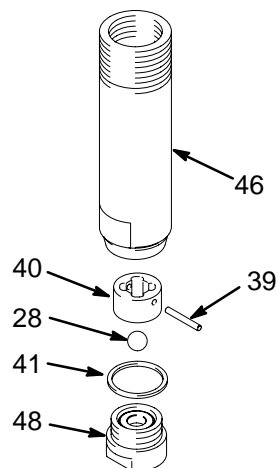

Fig. 7
2. Unscrew the intake valve (48) from the cylinder (46). If the valve is seized in the housing, squirt penetrating oil around the threads and gently tap around the housing with a light hammer to loosen. See Fig. 7 and 9. Remove the ball guide (40), the stop pin (39) and the ball (28). Clean and inspect the parts for wear or damage.